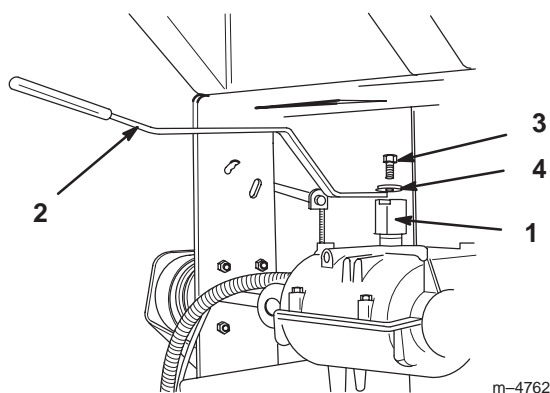

Figure 2
1. Align mounting block with flats of shaft on top of transmission and slide onto shaft (Fig. 2).
- If clearance is not correct, remove lever and bend it slightly to adjust (Fig. 2).